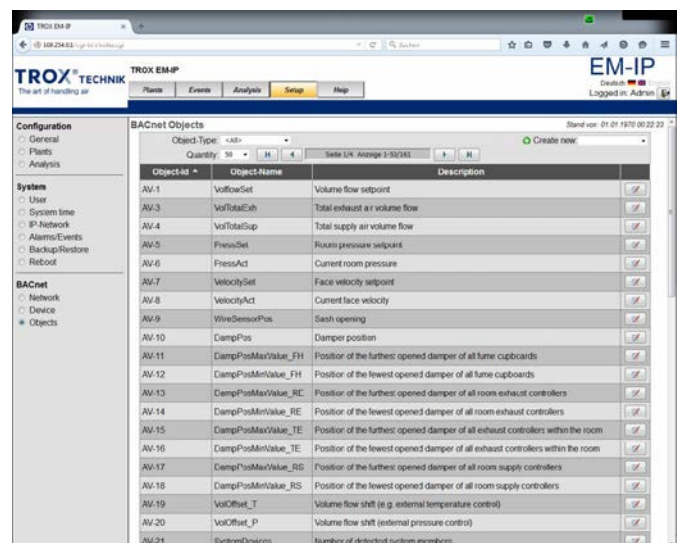

Fig. 43: BACnet objects
- ⇒ The 'BACnet objects' (Fig. 43) menu is displayed.